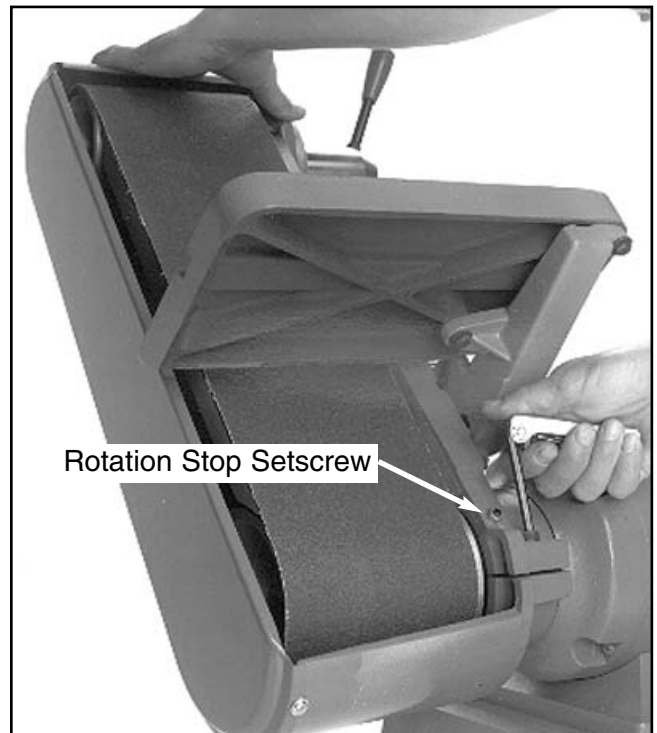

Figure 13. Loosening belt arm locking bolt.
1. Loosen the locking bolt as shown in **Figure 13**.
The setscrew/checknut combination shown in Figure 13 acts as a stop for the rotation of the belt arm. If it ever becomes necessary to remove the belt arm from the motor, be sure to remove this setscrew to allow the arm housing to be slipped off of the motor mounting.